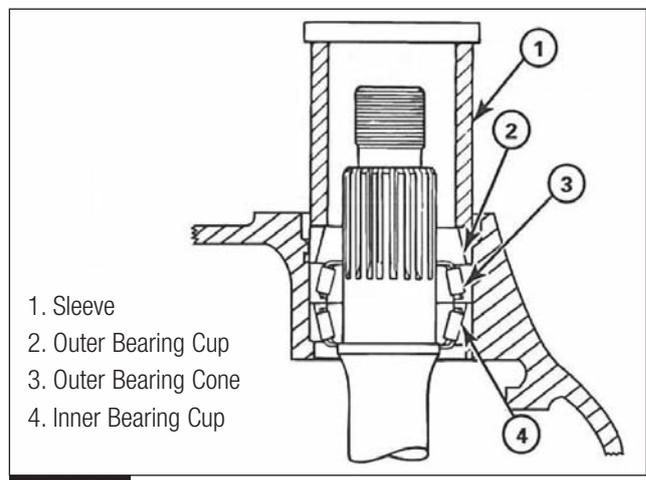

Fig. 2.127
4. Use a brass drift, bearing driver tool and a sleeve to install the outer bearing cup into the housing over the thru-shaft. Figure 2.127